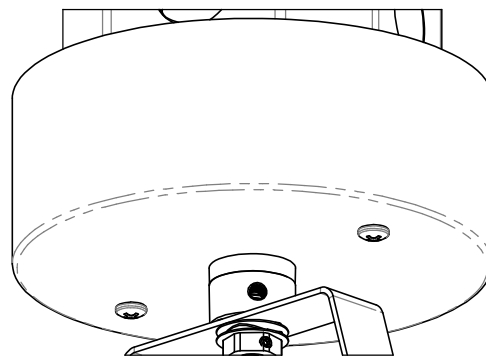

FIGURE 7. INSTALLED 5B CANOPY
5. ATTACH THE CANOPY TO THE CEILING WITH THE TWO SUPPLIED CANOPY MOUNTING SCREWS (**FIG. 7**).